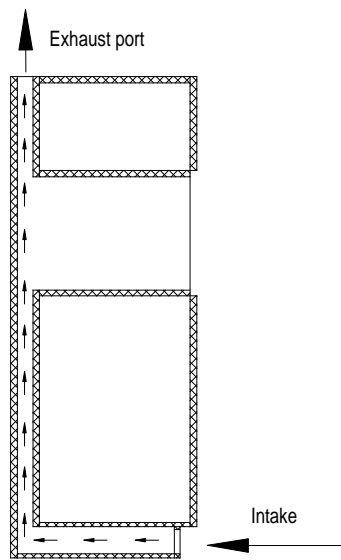

Fig 7
h) Cabinet airflow chart as shown in Fig.7.